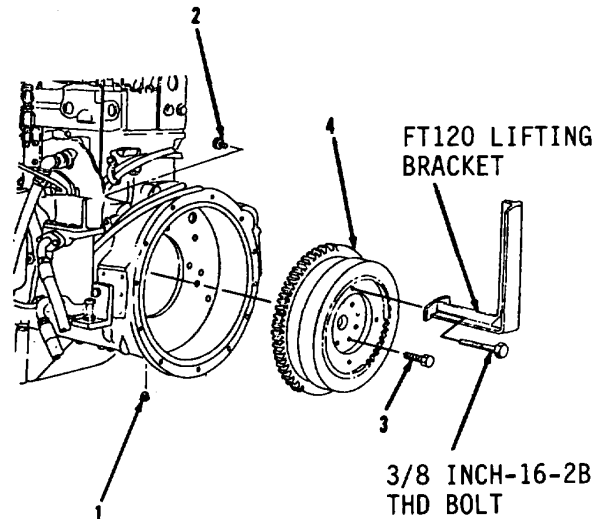

Figure 3-41.
1. Remove plugs (1 and 2, Figure 3-41) from rear of engine.
2. Using scribe, matchmark flywheel assembly (4) and crankshaft at same location.
3. Install FT120 lifting bracket and 3/8-16-2B THD bolt on flywheel assembly (4).